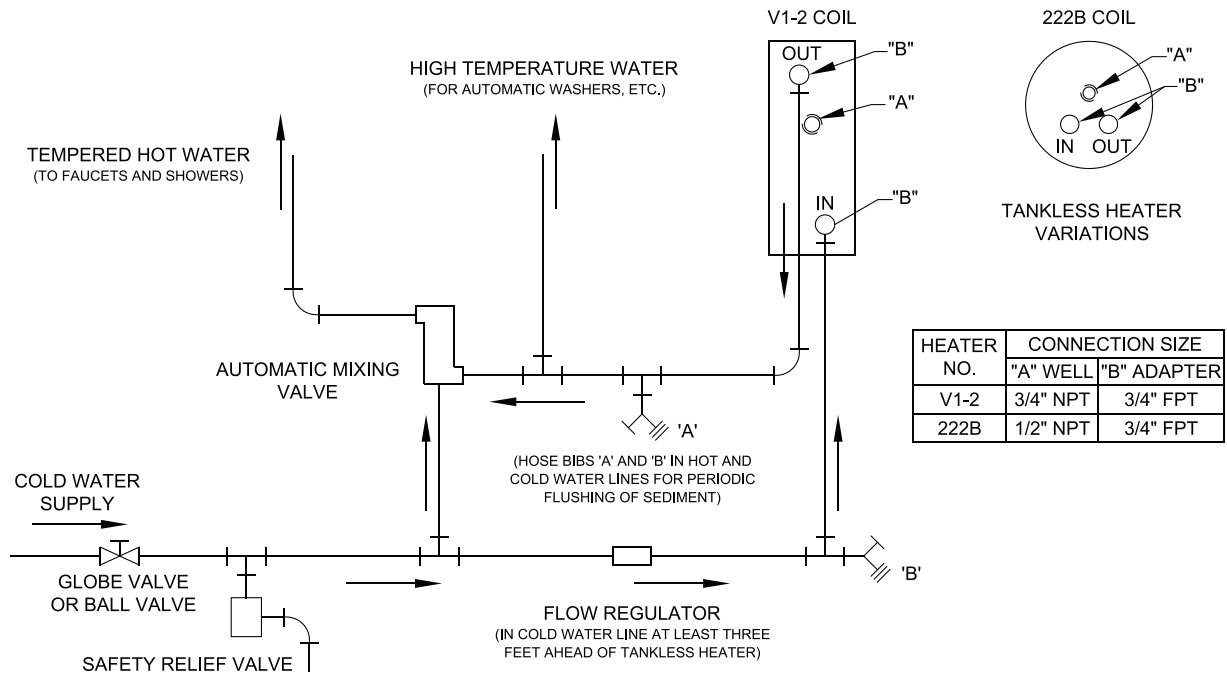

Figure 16A: Schematic Tankless Heater Piping
- A. **CONNECT TANKLESS HEATER PIPING** as shown in Figure 16A. See Tables 2A and 2B for Tankless Heater Rating.
2. **TEMPERING OF HOT WATER** — Installation of an automatic mixing valve will lengthen the delivery of the available hot water by mixing some cold water with the hot. This prevents the possibility of scalding hot water at the fixtures. In addition, savings of hot water will be achieved since the user will not waste as much hot water while seeking a water temperature. Higher temperature hot water required by dishwashers and automatic washers is possible by piping the hot water from the heater prior to entering the mixing valve. The mixing valve should be "trapped" by installing it below the cold water inlet to heater to prevent lime formation in the valve. Refer to Figure 16A.